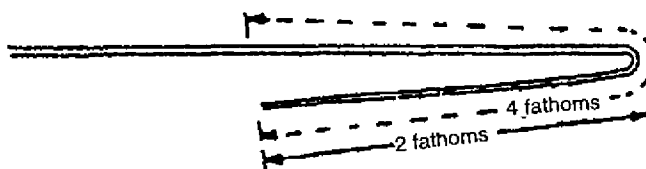

Fig. 3-53-1
- (a) Fold one end of a rope. (Fig. 3-53-1)